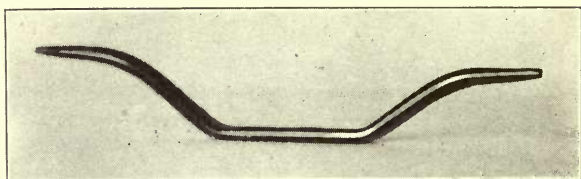

FIG. 20. ROPE CLEAT.
5. Bend the two ends or horns to the shape indicated on Plate 5 and in Fig. 20.